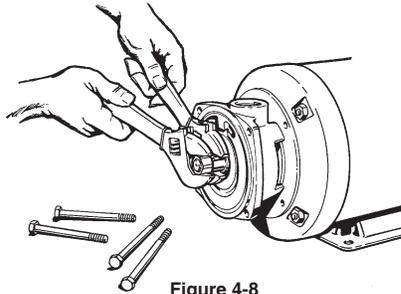

Figure 4-8
5. Remove the impeller drive hub, Refer to Figure 4-8. Two (2) adjustable wrenches are used to remove the impeller drive hub (#14).